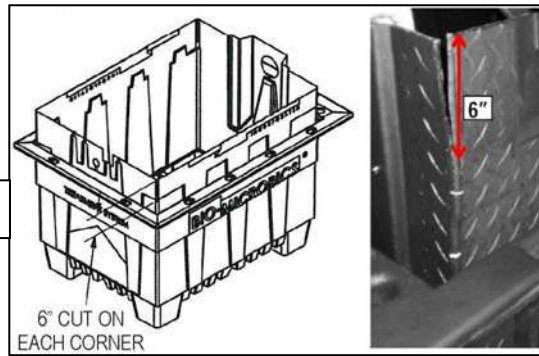

Figure 4.2
- b. Make a 6" long cut on each corner joint of the liner. See Figure 4.2